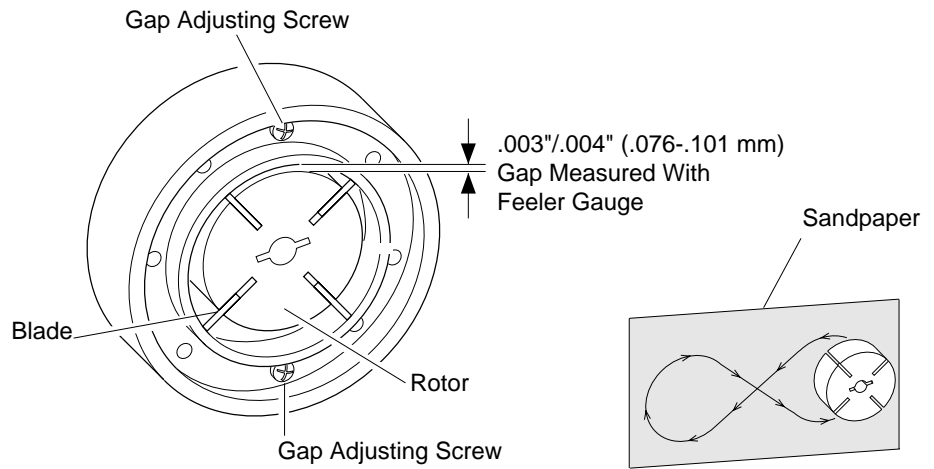

Figure 29 - Gap Adjusting Screw Locations
9. Check gap on rotor. Adjust to .003"/.004" (.076-.101 mm) if needed (see Figure 29).